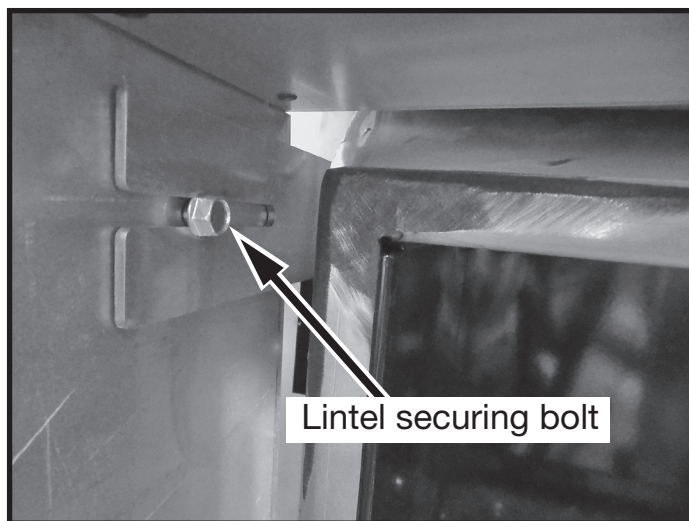
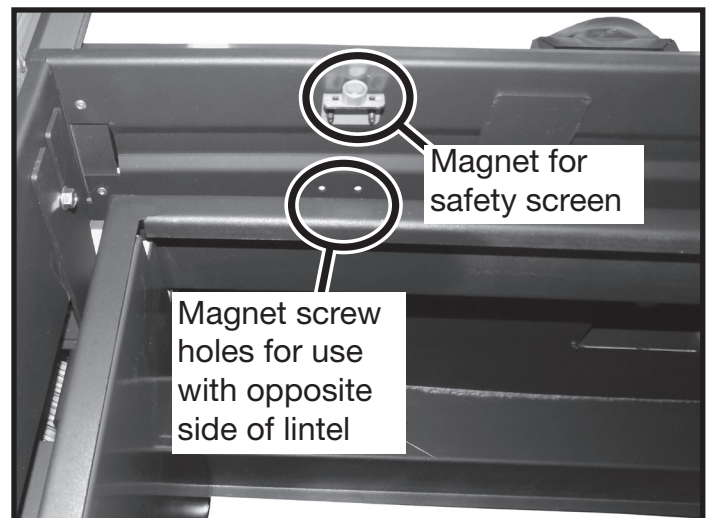

Figure 21: Lintel adjustment bolt.
Figure 22: Magnet for safety screen.
3. Loosen the securing bolts in the upper and lower corners on each side of the lintel (Figure 21) and remove the lintel. Remove the two safety screen magnets and secure them on the opposite side of the lintel (Figure 22).